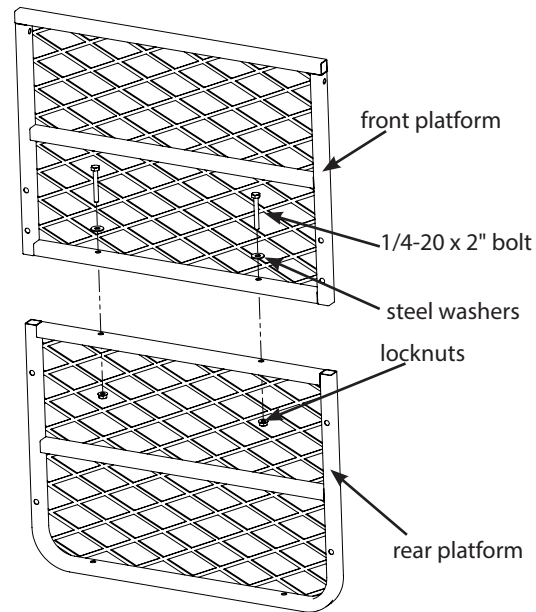

Figure 1
1. Attach the front platform (410050) and the rear platform (410058) together using (2) provided 1/4-20 x 2" bolts, locknuts and steel washers. **SEE FIGURE 1. DO NOT tighten all nut and bolt assemblies completely!**